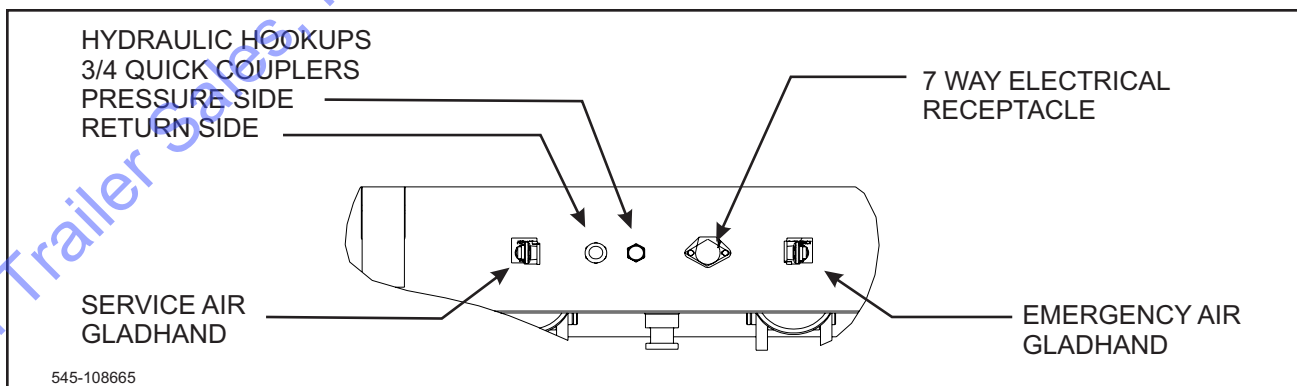

Figure 3-2 Service Hookups
3-2.4 Connect the service and emergency air hoses of the towing vehicle to their respective gladhand on the front of the semitrailer; red emergency line to the gladhand with the "**EMERGENCY**" tag, and the blue service line to the gladhand with the "**SERVICE**" tag (See **Figure 3-2**). Chock the semitrailer
- 3-4.1** Connect the towing vehicle 7-pole electrical plug to the electrical receptacle on the front of the semitrailer (See Figure 3-2).